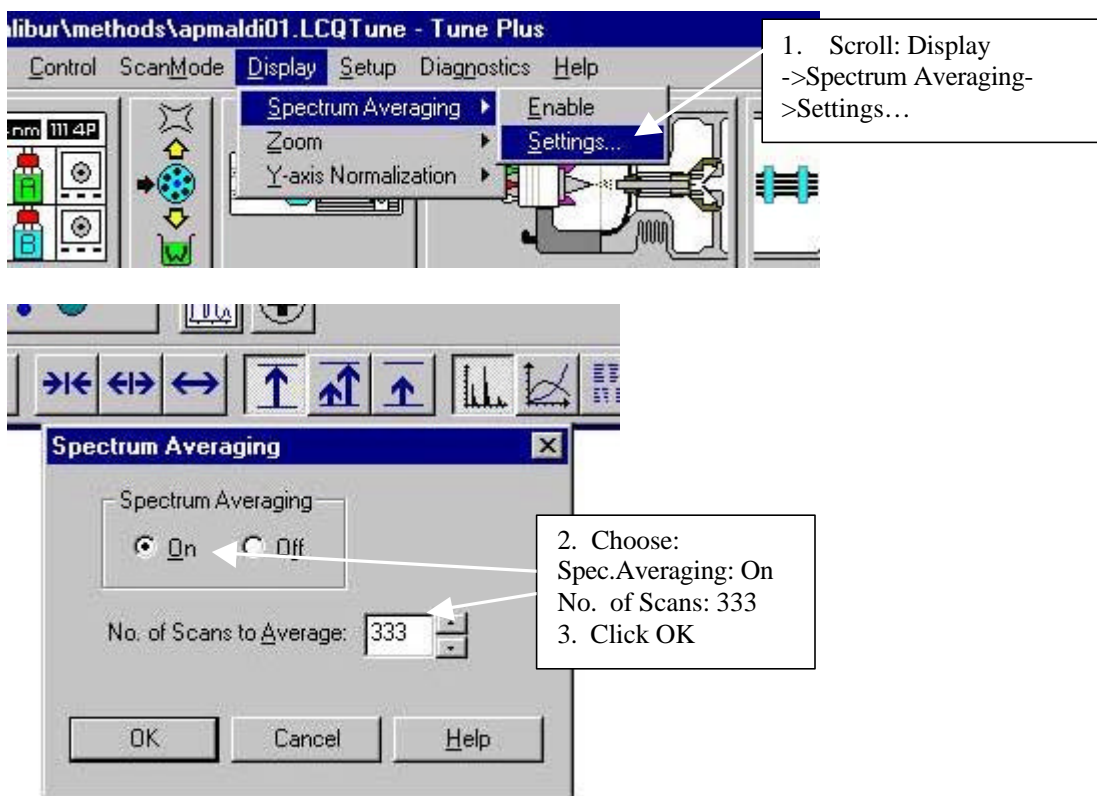

Fig. 32.
(maximum allowed value). If you are satisfied sooner than when 333 spectra are recorded – just save your spectrum and stop the data acquisition and laser firing. The way to increase Max. Averaging is shown in Fig. 32.
1. *Uncheck* the “Autosequence-Enable” check box in the *TARGET* software window (see Fig. 32).